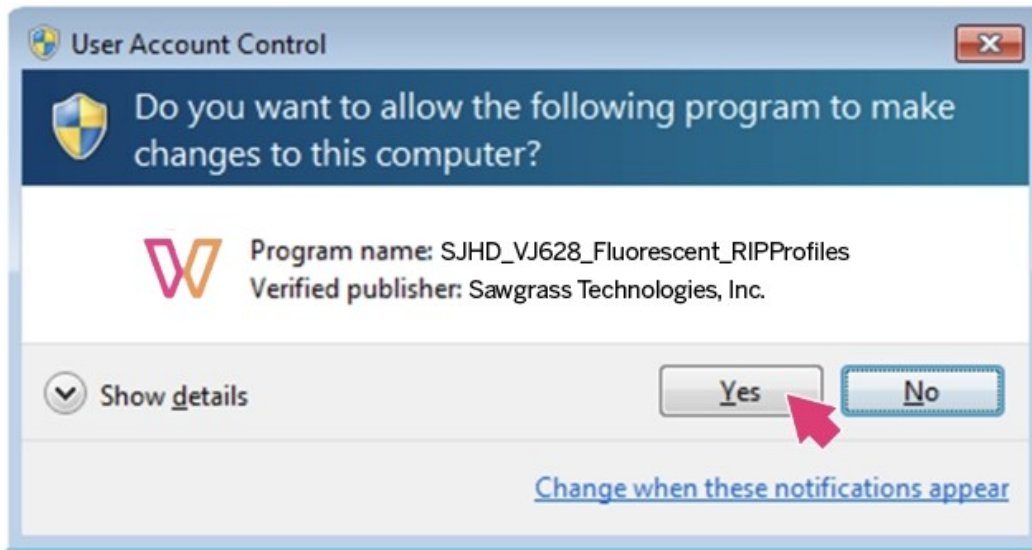

Figure 2
2. If you wish for this program to install, select **Yes**. See Figure 2.